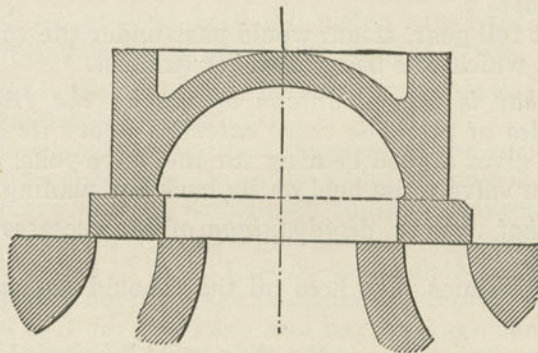
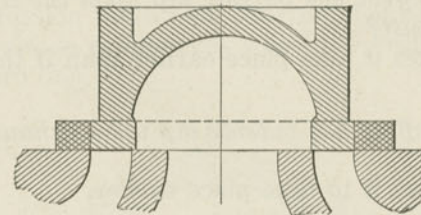
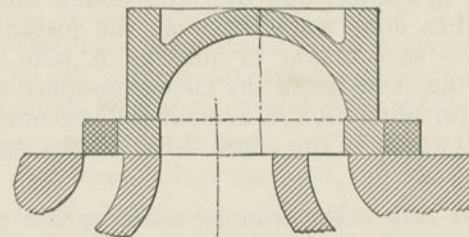

Fig. 149. D Slide Valve.
Fig. 150. Slide Valve with Lap Added.
Fig. 151. Slide Valve with Lap Added.
A. As shown in Fig. 149, and in Figs. 150 and 151, it consists of a plain surface having three narrow ports, with parallel edges, all of which are at right angles to the direction of motion of the piston and of the valve. The central (and larger) one communicates only with the exhaust-passage, the end ones with the cylinder, at the counterbore, each serving alternately for admission and exhaust for its own cylinder end. There are usually shoulders at each end, so that the valve may in its travel extend beyond them, instead of cutting away material and wearing a low place in the seat.
the ordinary slide valve an excess of length over the amount necessary to just come line and line with the outside edges of the end ports. In Fig. 150, where the valve is in mid-position, the outside lap is represented by the extra heavily hatched portions at both ends. In Fig. 151 there is practically no lap.